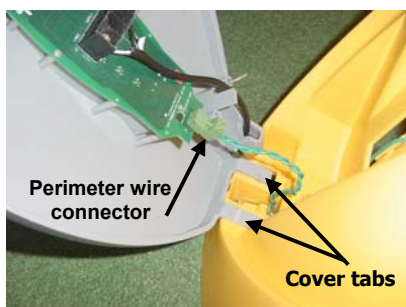

Figure 1.20 –
- Align the two tabs on the lower section of the cover with the mated openings in the front lower section of the base, see Figure 1.20. Carefully push the tabs of the cover into the openings in the base as shown. While in the position pictured, attach the perimeter wire connector to the Perimeter Switch board as shown.